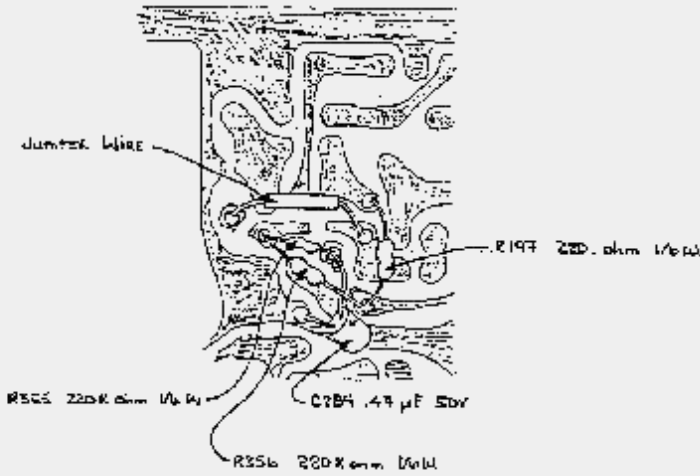

FIGURE 3
11. On the foil side of the board, add the 3 resistors (R197, 355, 368) as shown in figure 3.
12. Add a small jumper wire as shown in figure 3.
13. Add capacitor C282 as shown in figure 3. Observe polarity and insulate the positive (+) lead with shrink tubing.